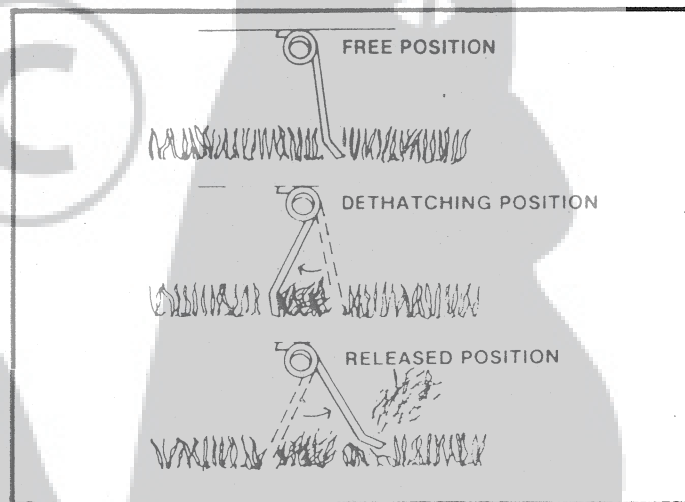

Fig. 6
Refer to Figure 6.
- When in use all tines on the Thatcherator should deflect back and "flip" the thatch forward as shown in Fig. 6.